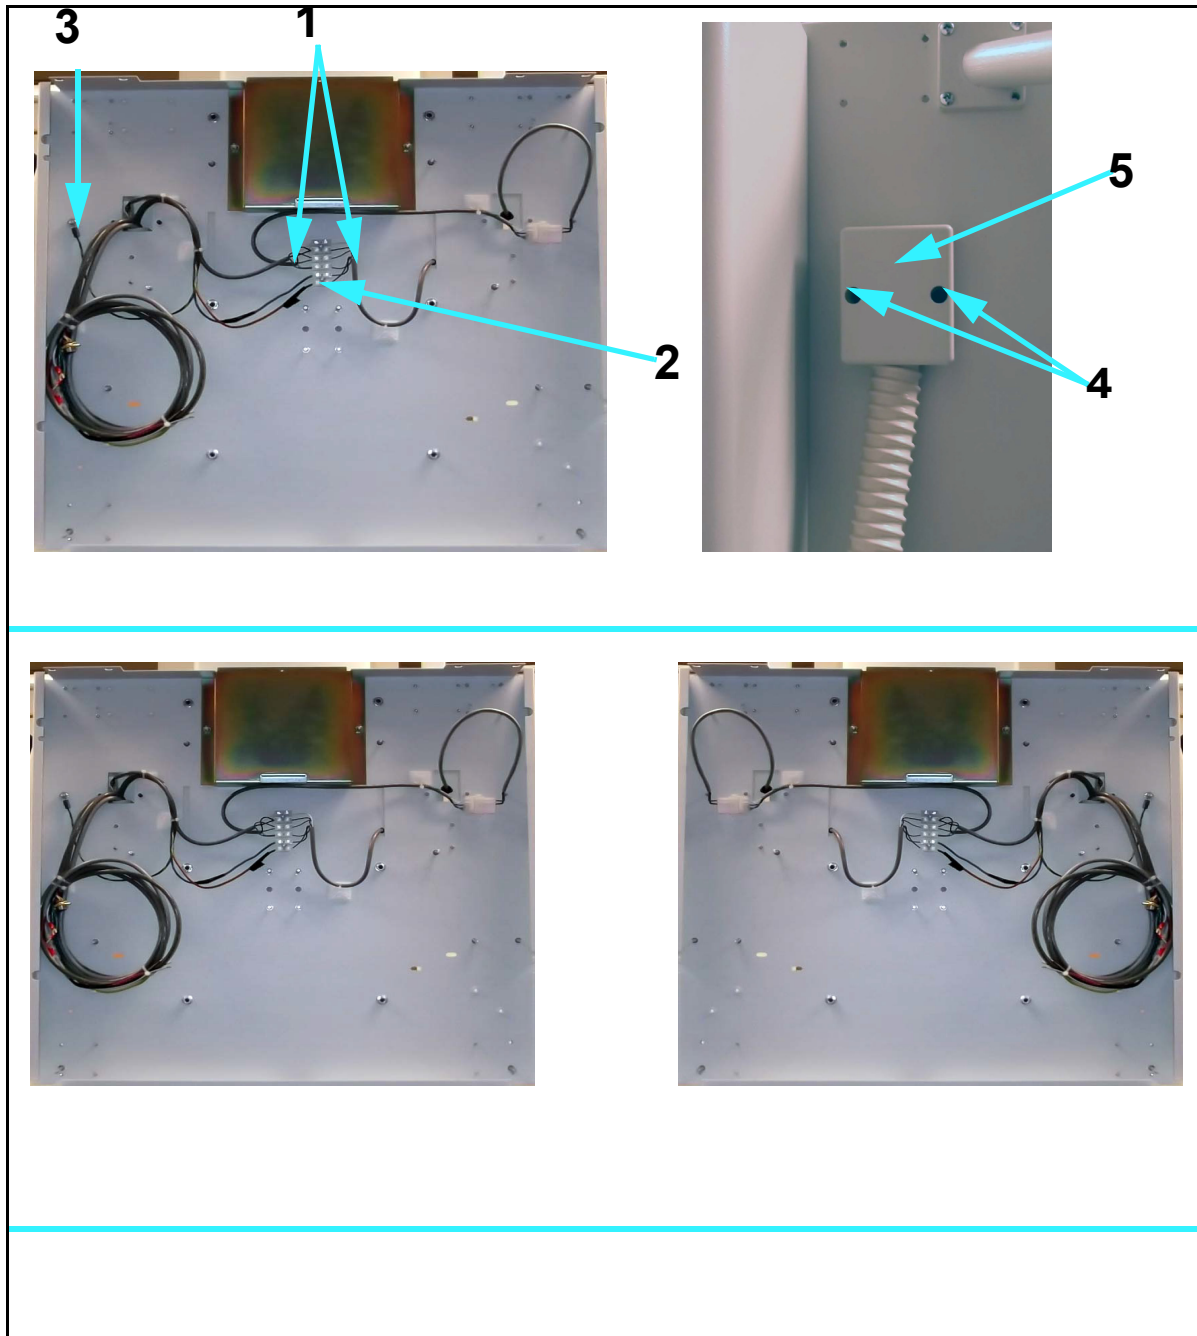

Figure E-33. Lock Mechanism Assembly (Left & Right Shown)
- 38 Disconnect wires (1 in Figure E-33) from terminal (2).
- 39 Disconnect ground wire (3).
- 40 Unscrew conduit box screws (4 in Figure E-33) and remove conduit box (5).